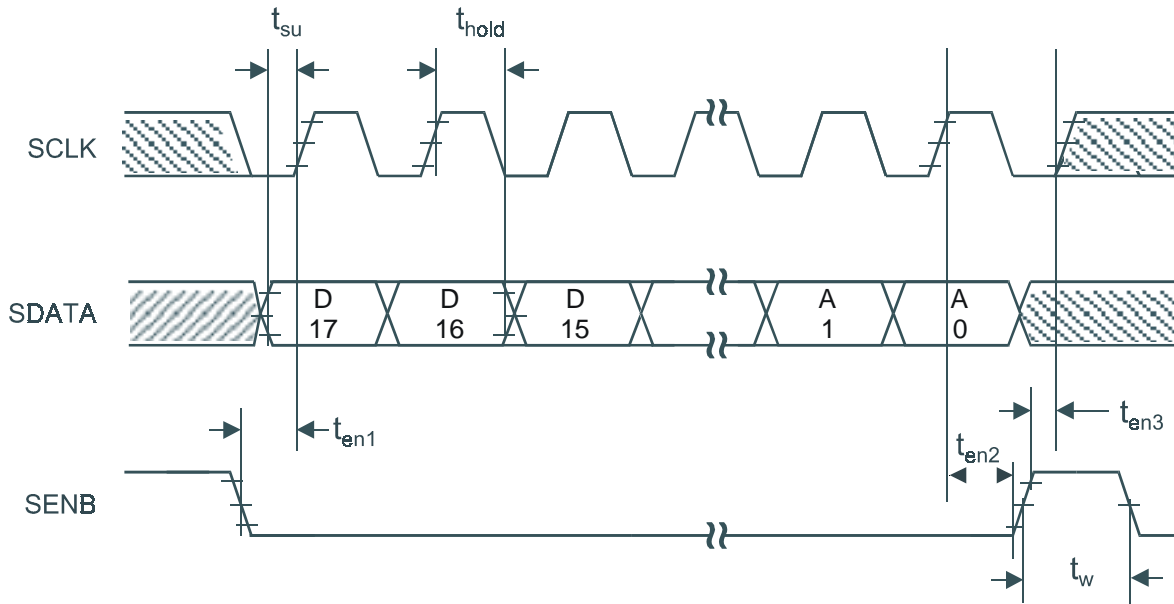
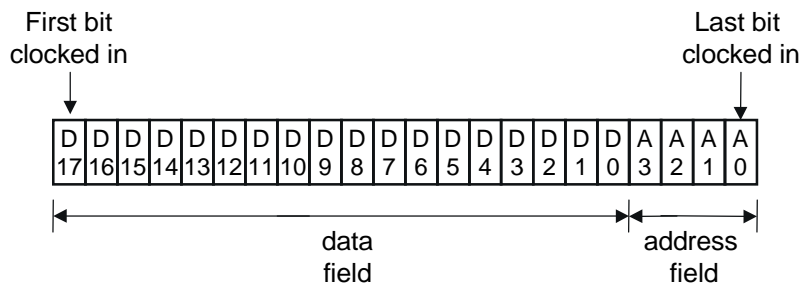

Figure 2. Serial Interface Timing Diagram
Figure 3. Serial Word Format
2. Timing is not referenced to 50% level of waveform. See Figure 2.
The Si4133G-X2 is programmed serially with 22-bit words comprised of 18-bit data fields and 4-bit address fields. Figure 3 on page 7 shows the format of the serial interface. A timing diagram for the serial word is shown in Figure 2 on page 7.